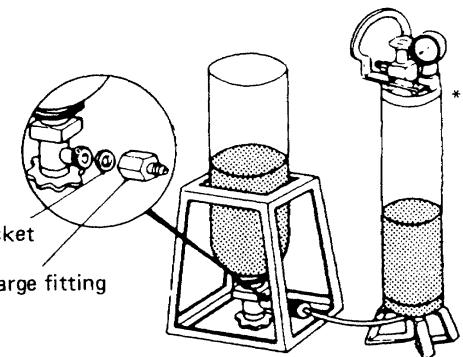

Fig. 21
- * If cylinder has not yet been filled, move at least one pound of refrigerant (R22) to the charging cylinder. Fig. 21